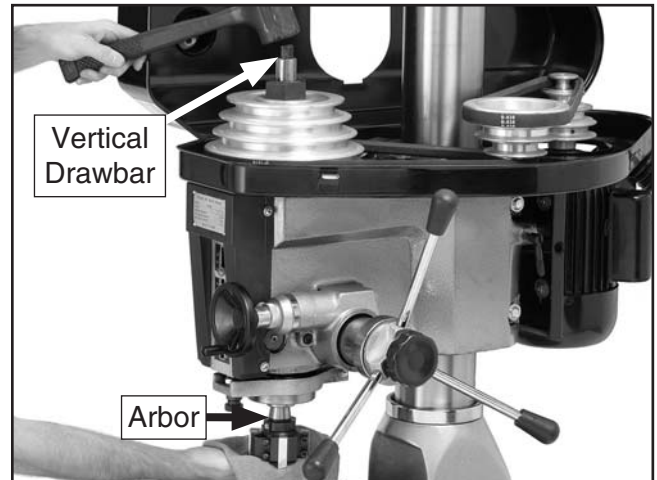

Figure 21. Collet removal.
3. Hold the cutter with a shop towel to prevent it from dropping completely out of the machine. Tap on the top of the drawbar with a rubber mallet to loosen the collet/arbor from the spindle (**Figure 21**).